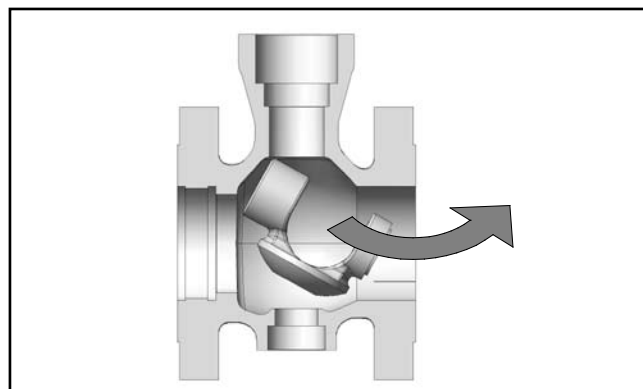

Figure 2a: Plug Removal
- 5.6 Remove the plug from the body. See figure 2a.